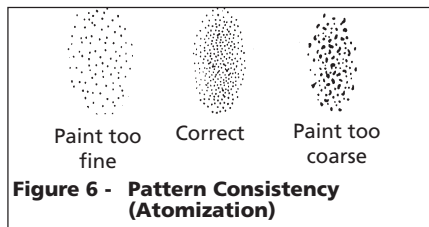

Figure 6 - Pattern Consistency (Atomization)
4. Trigger a short burst while turning fluid control knob counterclockwise. Observe the spray pattern on the target and adjust the fluid control knob until the desired pattern (atomization) is obtained (See Figure 6).